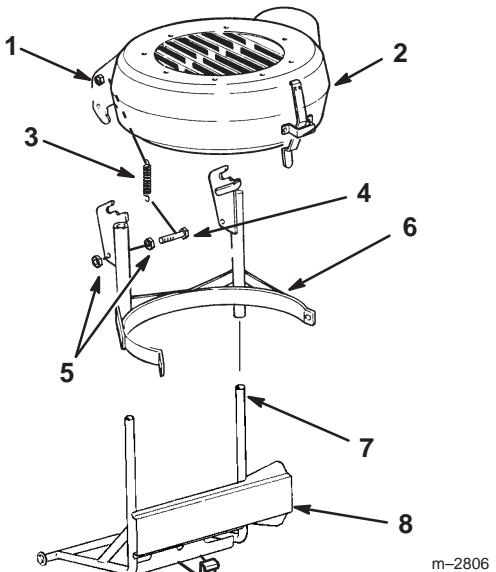

Figure 13
5. Align the canister support over the bagger mount tubes and slide down (Fig. 13).
6. Assemble the spring anchor bolts to the canister support brackets. Thread a locknut partway onto the 3/8"-16 x 2-1/4" (57 mm) bolt. Install the bolt into the bracket with the head toward the inside. Install a second locknut onto the end and tighten the inner locknut so bolt extends inward. Repeat for the second bracket (Fig. 13).
7. Slide the top assembly pivot bolts into the slots of the canister support brackets. Retain the top assembly with springs hooked between the top anchor bolts and the spring anchor bolts in the canister support brackets (Fig. 13).